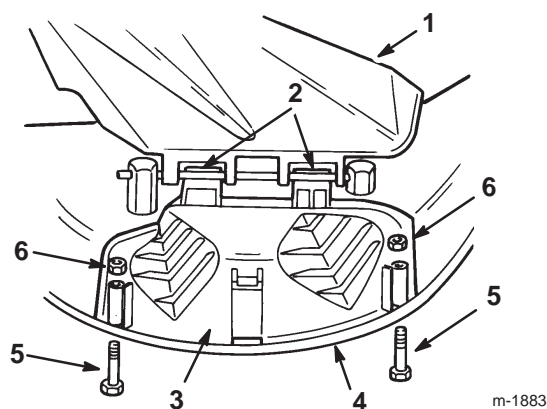

Figure 14
2. Lift the grass deflector and slide the tabs on top of the discharge cover under the grass deflector retaining rod. Rotate the discharge cover down over the opening, and onto the lower lip of the mower (Fig. 14).
3. Secure the discharge cover to the lower lip of the mower with bolts and nuts (Fig. 14).